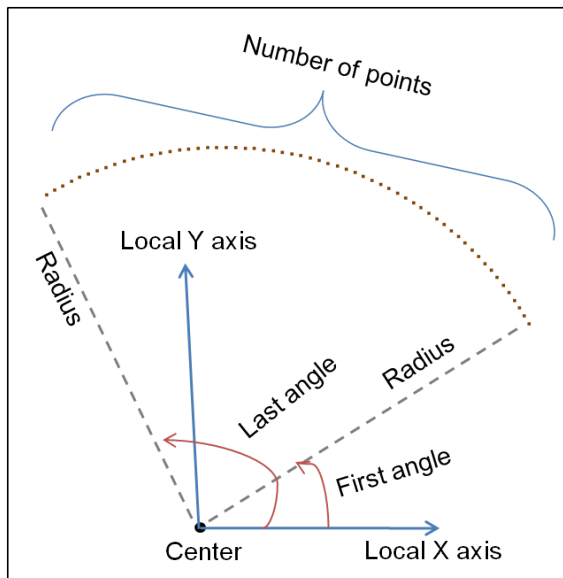

Figure 13.16: Creating field points using Polar method
- Polar method: to create a circular arc of field points, as shown in Figure 13.16;